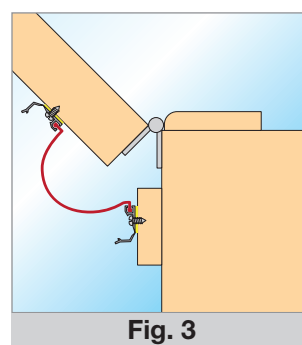

Fig. 3
- 8 Using screws provided fix both sides of Little Fingers Heavy Duty in positioning with a screw every 150mm and with one no more than 25mm away from top and bottom (see fig 3)